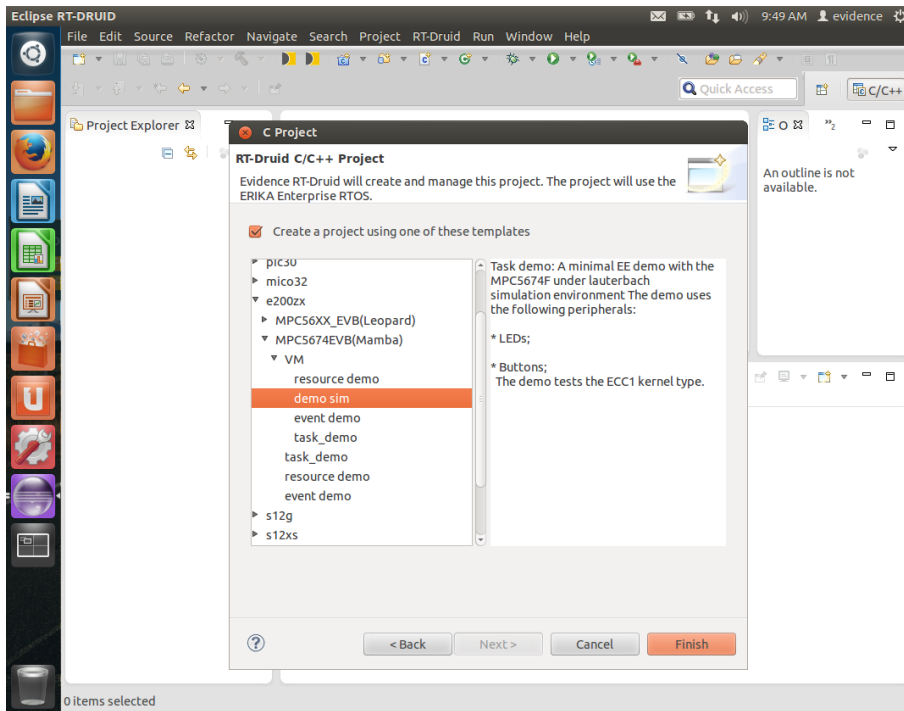

Figure 3.6: Selecting the demo code for the template.
5. Select the checkbox “Create a project using one of these templates”, and select the `demo_sim` example as shown in Figure 3.6.